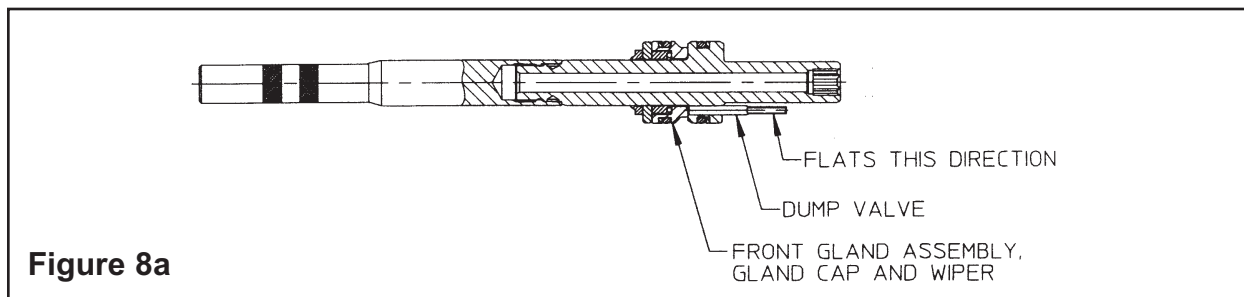

Figure 8a
2. See **FIGURE 8a** - - thread piston assembly tool onto piston. Lubricate **POLY-SEAL** inside diameter and external diameters of piston and piston assembly tool. Press evenly against gland cap to slide front gland assembly over piston assembly tool and into piston. Slide wiper onto piston as shown. Install dump valve into piston as shown.
CAUTION: Always make sure the large flats of the dump valve face the rear of the tool. (See Fig. 8a)
3. Thread piston insertion tool into cylinder. Lightly coat internal surfaces of tool and cylinder with lubricant - **-FIGURE 8a.**